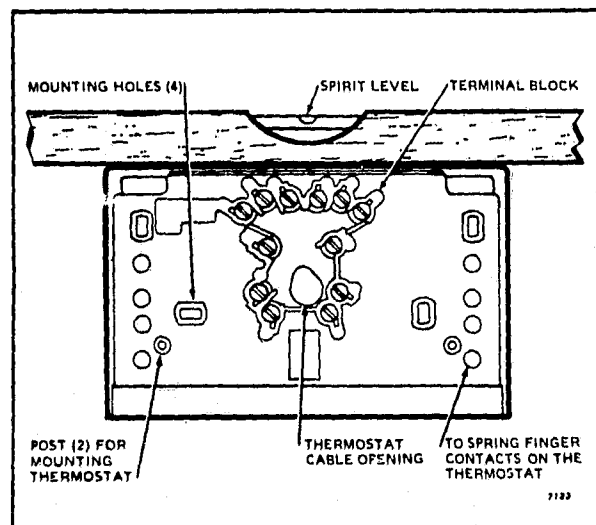

FIG. 3—LEVELING THE SUBBASE.
5. The subbase mounting slots provide for minor out of level adjustments. Level the subbase using a spirit level, as shown in Fig. 3 and tighten subbase mounting screws.